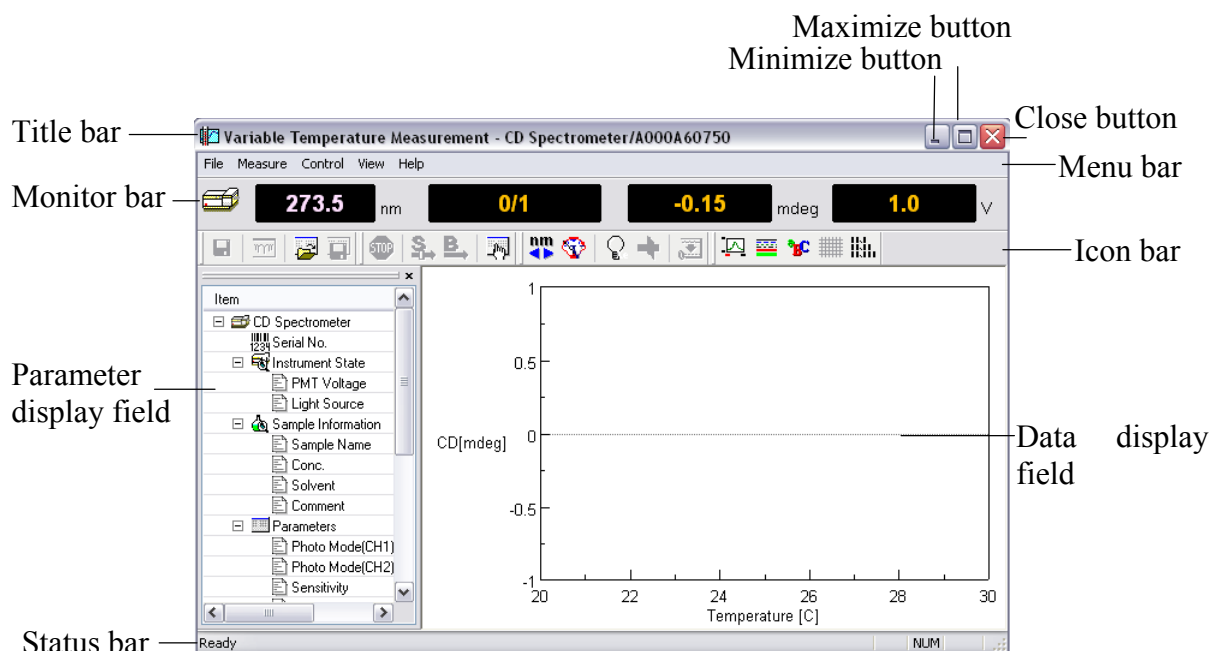
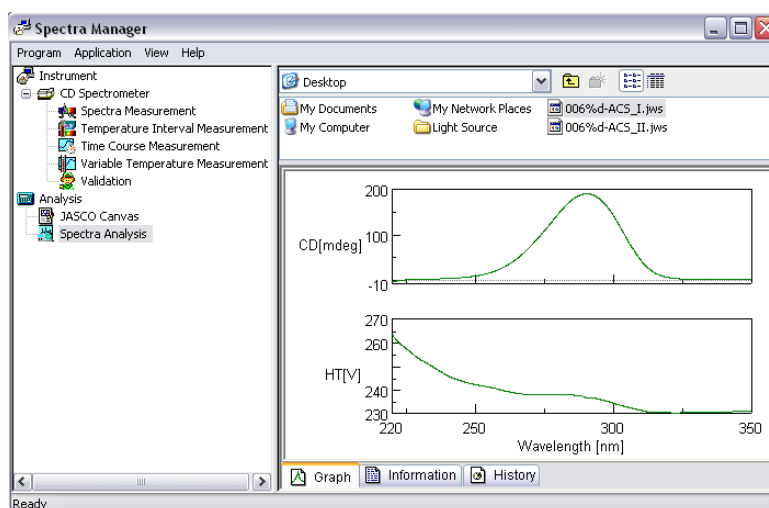

Figure 1.1 [Variable Temperature] window
Figure 1.2 [Spectra Manager] window
Figure 1.1 depicts the names of features in the program window of the [Variable Temperature Measurement] program (the [Temperature Interval Scan Measurement] program is the same). Figure 1.2 is displayed by clicking the [Variable Temperature Measurement] menu of Figure 1.2.
**Note:** Figure 1.1 depicts only one channel of data, but this program can display up to a maximum of four channels of data simultaneously when measurement starts.
This is the first window that appears when the [Spectra Manager] program in the [JASCO] menu is started (see Figure. 1.2). The left side of the window shows the installed programs, which are the J-800 [Spectra Analysis], the J-800 standard program and the [Thermo Controlling] program. From this window it is possible to control the operation of the spectrometer and program, transfer data files into [Spectra Analysis], open graphs and information as a data file, display the directory of the data file and open the [Administrative Tools].
**Note (1):** Figure. 1.1 shows one channel of data, but this program can display a maximum of four channels of data simultaneously when measurement starts.
**Note (2):** Refer to Section 2.2 and Section 2.3 for registration of the Peltier accessory.
**Note (3):** Refer to the “J-800 Series Operation Manual” for how to start the [Spectra Manager] program.